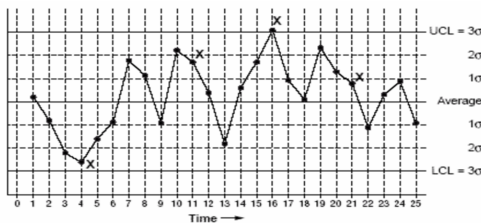

Figure 1 Control Chart: Out-of-Control Signals
- A single point outside the control limits. In Figure 1 (one), point sixteen is above the UCL (upper control limit).
- Two out of three consecutive points that are on the identical aspect of the center line and farther than two σ from it. In Figure 1, point 4 sends that signal.
- Four out of five serial points are on the identical aspect of the center line and farther than one σ from it. In Figure 1, point 11 sends that signal.
- A run of eight during a row are on identical aspect of the center line. Or ten out of eleven, twelve out of fourteen or sixteen out of twenty. In Figure 1 (one), purpose 21 (twenty one) is eighth during a row higher than the center line.